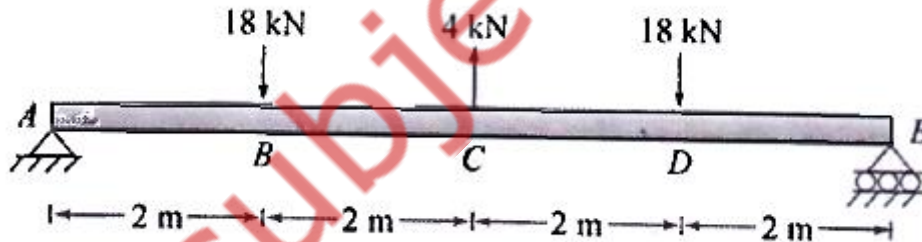

FIG.1
7. Draw the shear force and bending moment diagram for the beam shown in Figure 1.